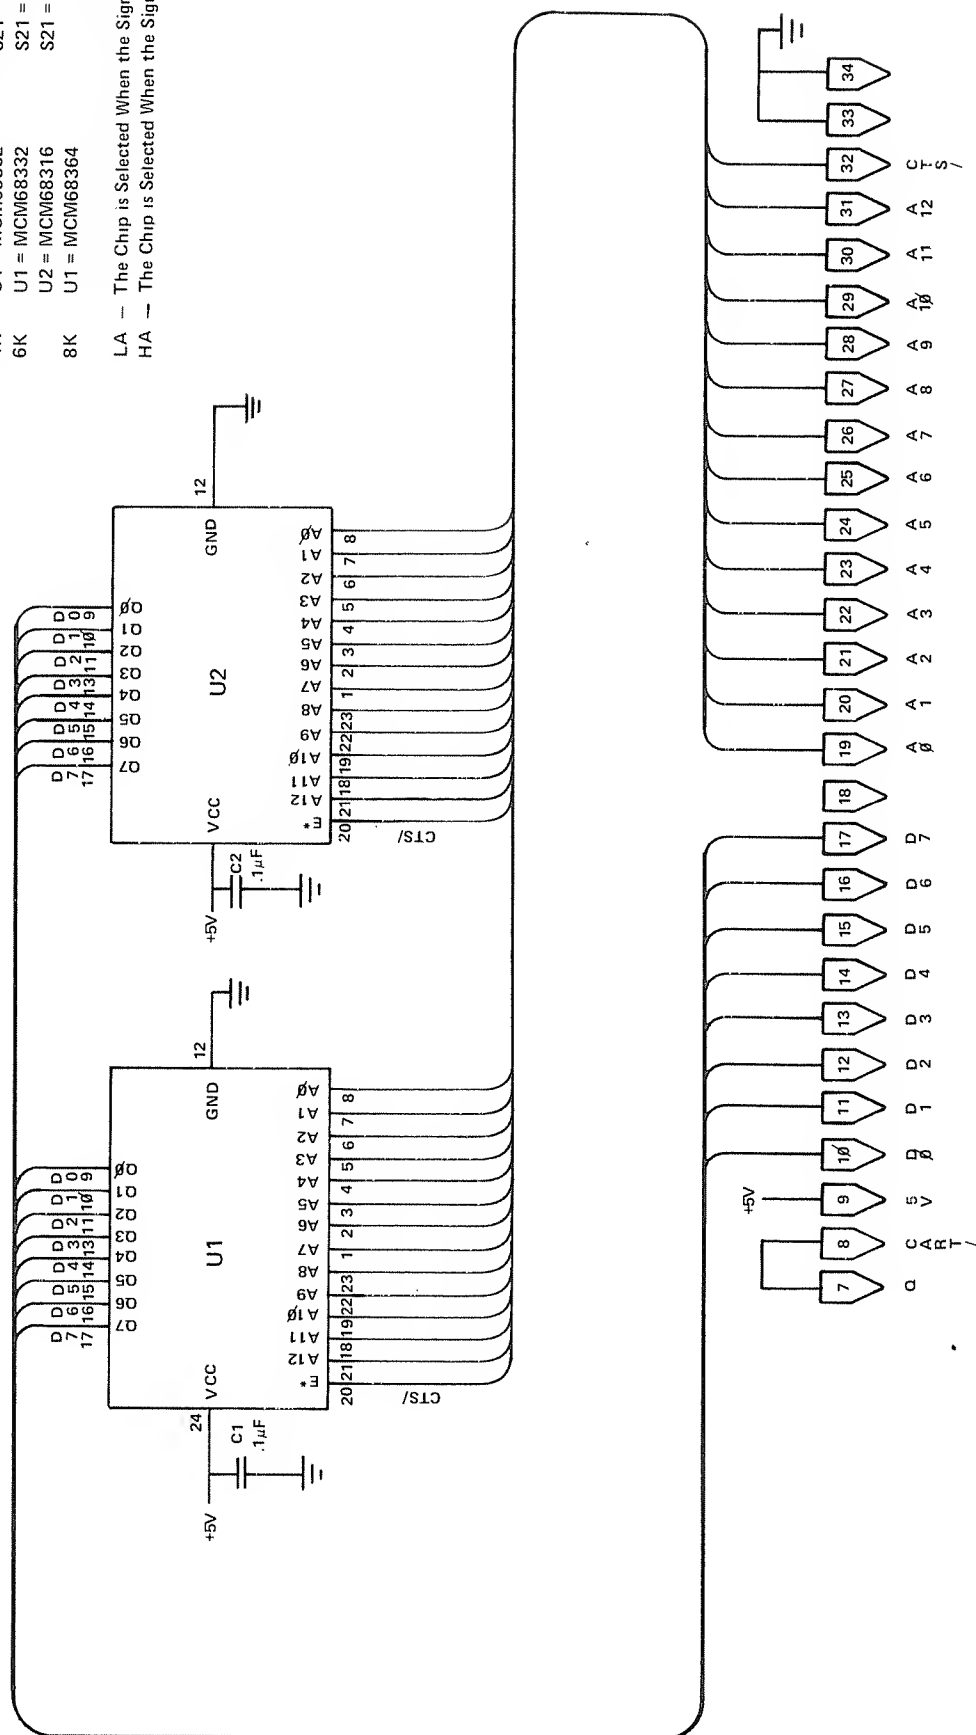

FIGURE 15. ROM CARTRIDGE BOARD SCHEMATIC
The most common usage of the cartridge connector is with the ROM Cartridge. A schematic of the ROM Cartridge board is shown in Figure 15. In operation, U1 would be a 16K, 32K, or 64K ROM, and U2 might be a 16K or 32K ROM (the total of U1 and U2 must not be greater than 64K). For cartridge detection, the clock signal (Q) is shorted to the cartridge interrupt pin. This generates an interrupt anytime the cartridge is plugged in and forces the computer to jump to the program in ROM.